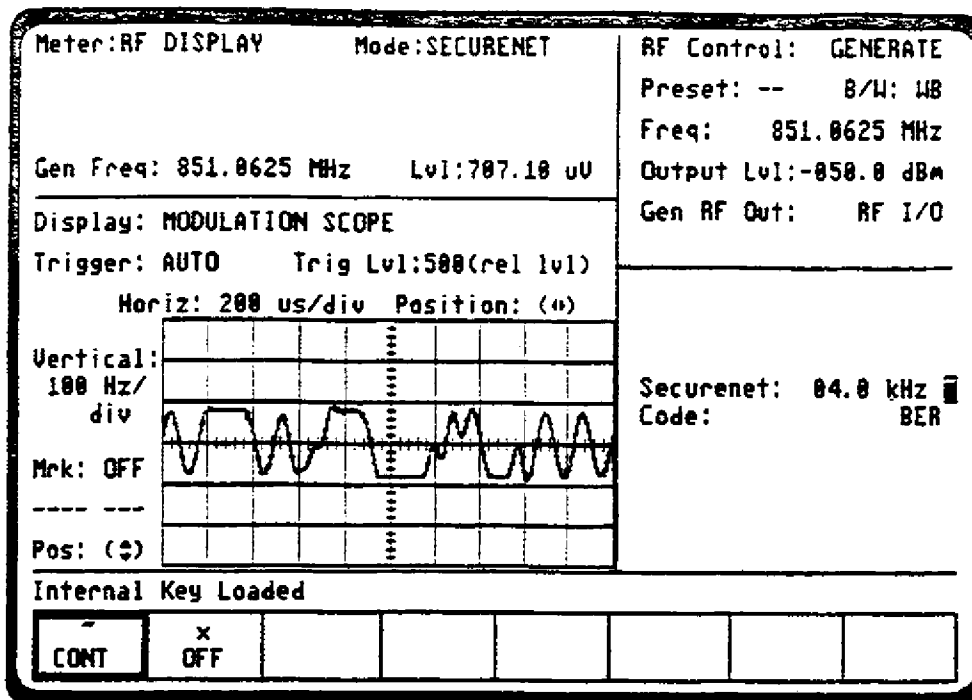

Figure 4-1. Radio (BER Test Mode) Audio Zone
2. Select the SECURENET BER Test mode by placing the cursor in the "Code:" field in the Audio Zone (Figure 4-1). With the cursor in the "Code:" field, select the **BER** softkey.